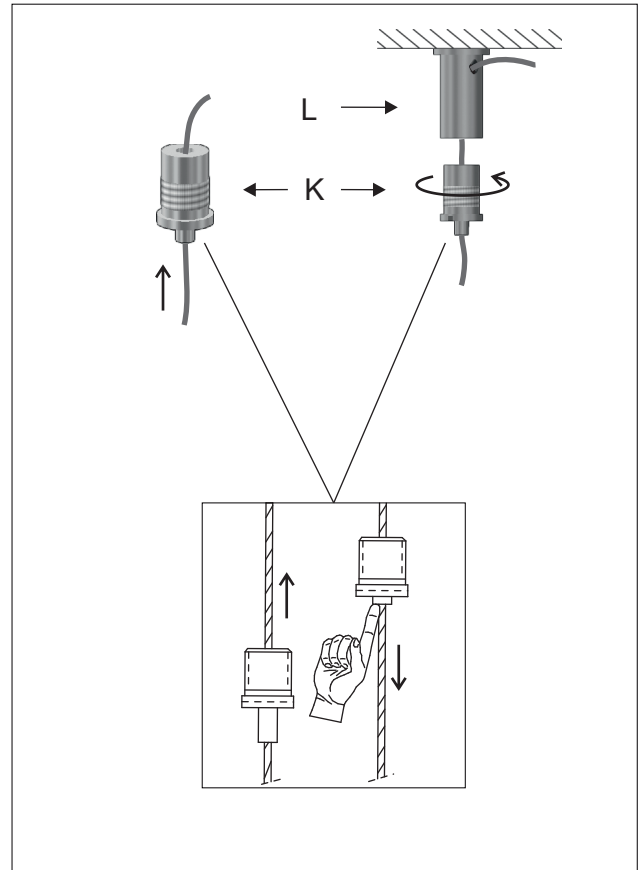

Figure 4
- 4 - Insert the steel cables through the gripper supports (K) and then the side hole of the tensors (L). Again screw the gripper support (K) to the tensor and adjust the cable to the desired length. Cut the excess steel cable. Figure 4
Push the cable upwards to reduce the cable length and press the pivot of the gripper support (K) to increase it. By keeping the mechanism pressed, the cable moves freely. Release the mechanism once the desired length is achieved. The cable will then stay in place. Figure 4